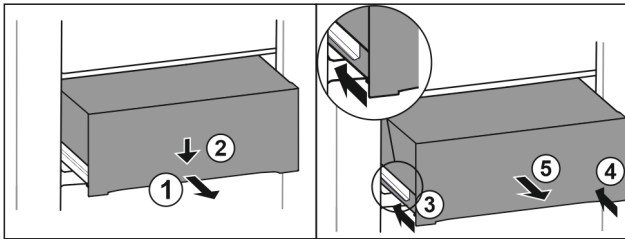

Fig. 166
- ▶ Pull out drawer half-way. Fig. 166 (1)
- ▶ Push the drawer down at the front. Fig. 166 (2)
- ▶ Push the left rail in by about 2 cm. Fig. 166 (3)
- ▶ Push the right rail in by about 2 cm. Fig. 166 (4)
- ▶ Remove drawer to the front. Fig. 166 (5)